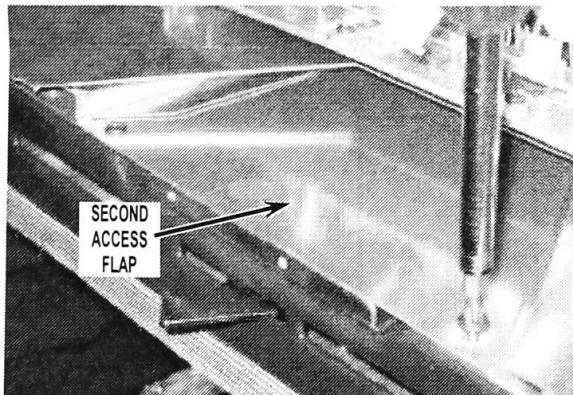

Figure 2
5. Remove (2) screws exposed by removal of access flap. (See *Figure 2*).